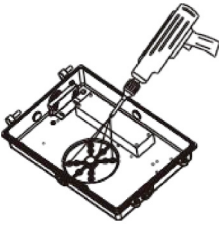

Fig. 3
5. Use an electric drill to drill through the mounting hole on the fixture. (Fig. 3)